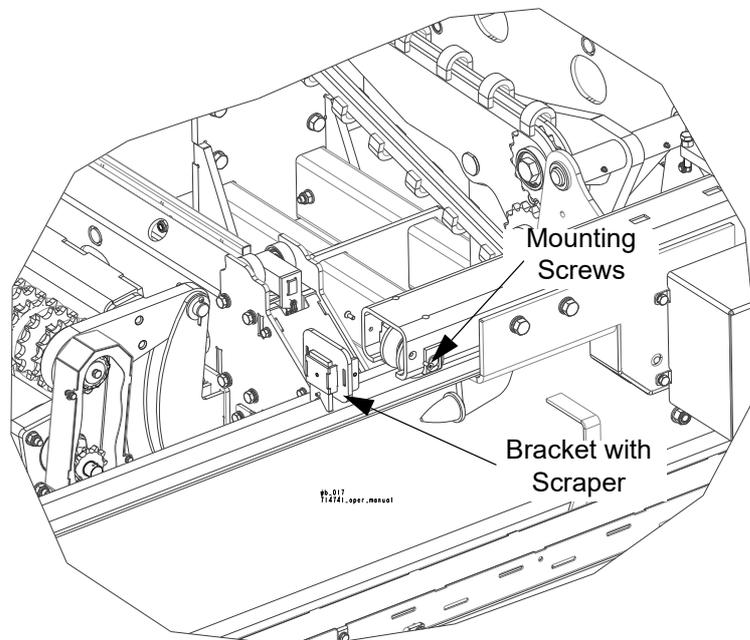

FIG. 5-4
See Figure 5-4. Remove the mounting screws and dismount the scraper brackets (4).